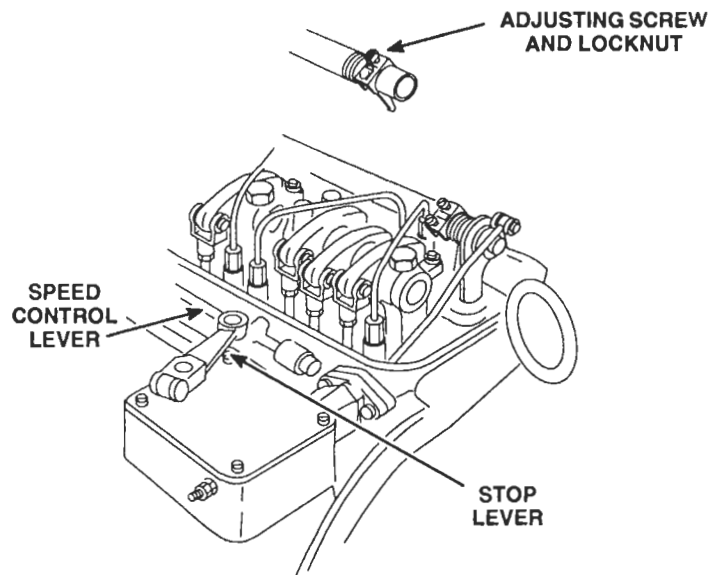

Figure 2. Positioning No. 1 Injector Rack Control Lever
2. Loosen all the inner and outer injector rack control lever adjusting screws or adjusting screws and locknuts (Figure 2.) Be sure all the injector rack control levers are free on the injector control tubes.